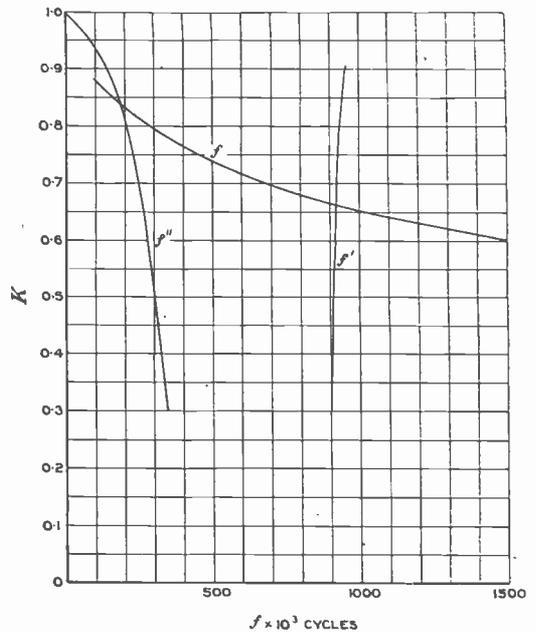

Fig. 21.
These values are plotted in curve *f* of Fig. 21.
Formulae (30) and (31) give the two curves of *f'* and *f''* (Fig. 21) showing the interdependence of coupling frequencies and *K*. The intersection of these curves with curve *f* give the two resonant humps